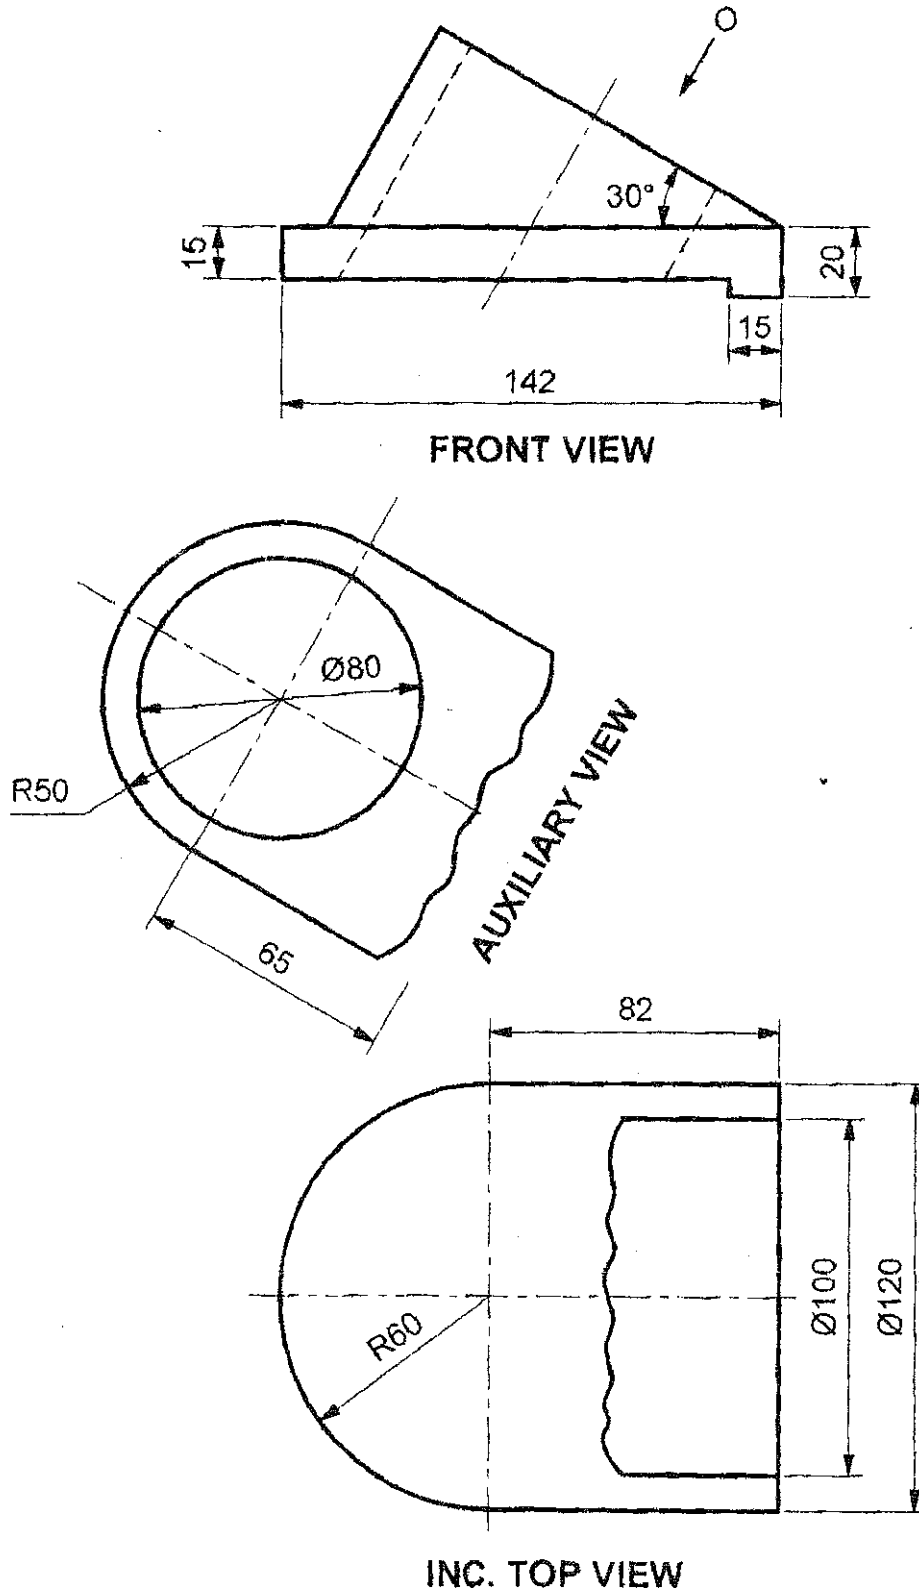

Figure 1
2. A) Figure 1 shows the front view, incomplete top view and partial auxiliary view of a machine part. Using the given views complete the top view of the object. (1×12=12)